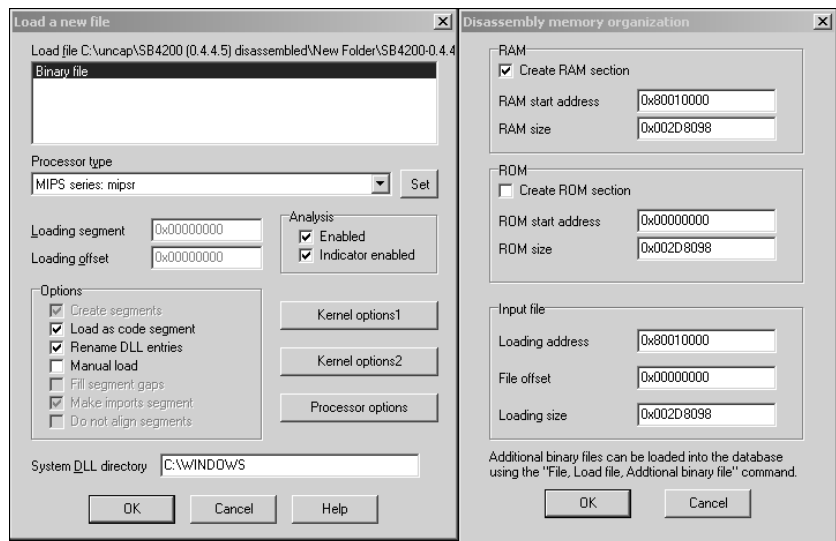

Figure B-5: IDA settings for disassembling an uncompressed firmware file
Your dialog should now look similar to the window on the left in Figure B-5. Leave the defaults for all other options, click **OK**, and select **Yes** when prompted to change the processor type.
8. In the Input File section, change the Loading Address to your RAM start address. Your dialog box should now look similar to the window on the right in Figure B-5.